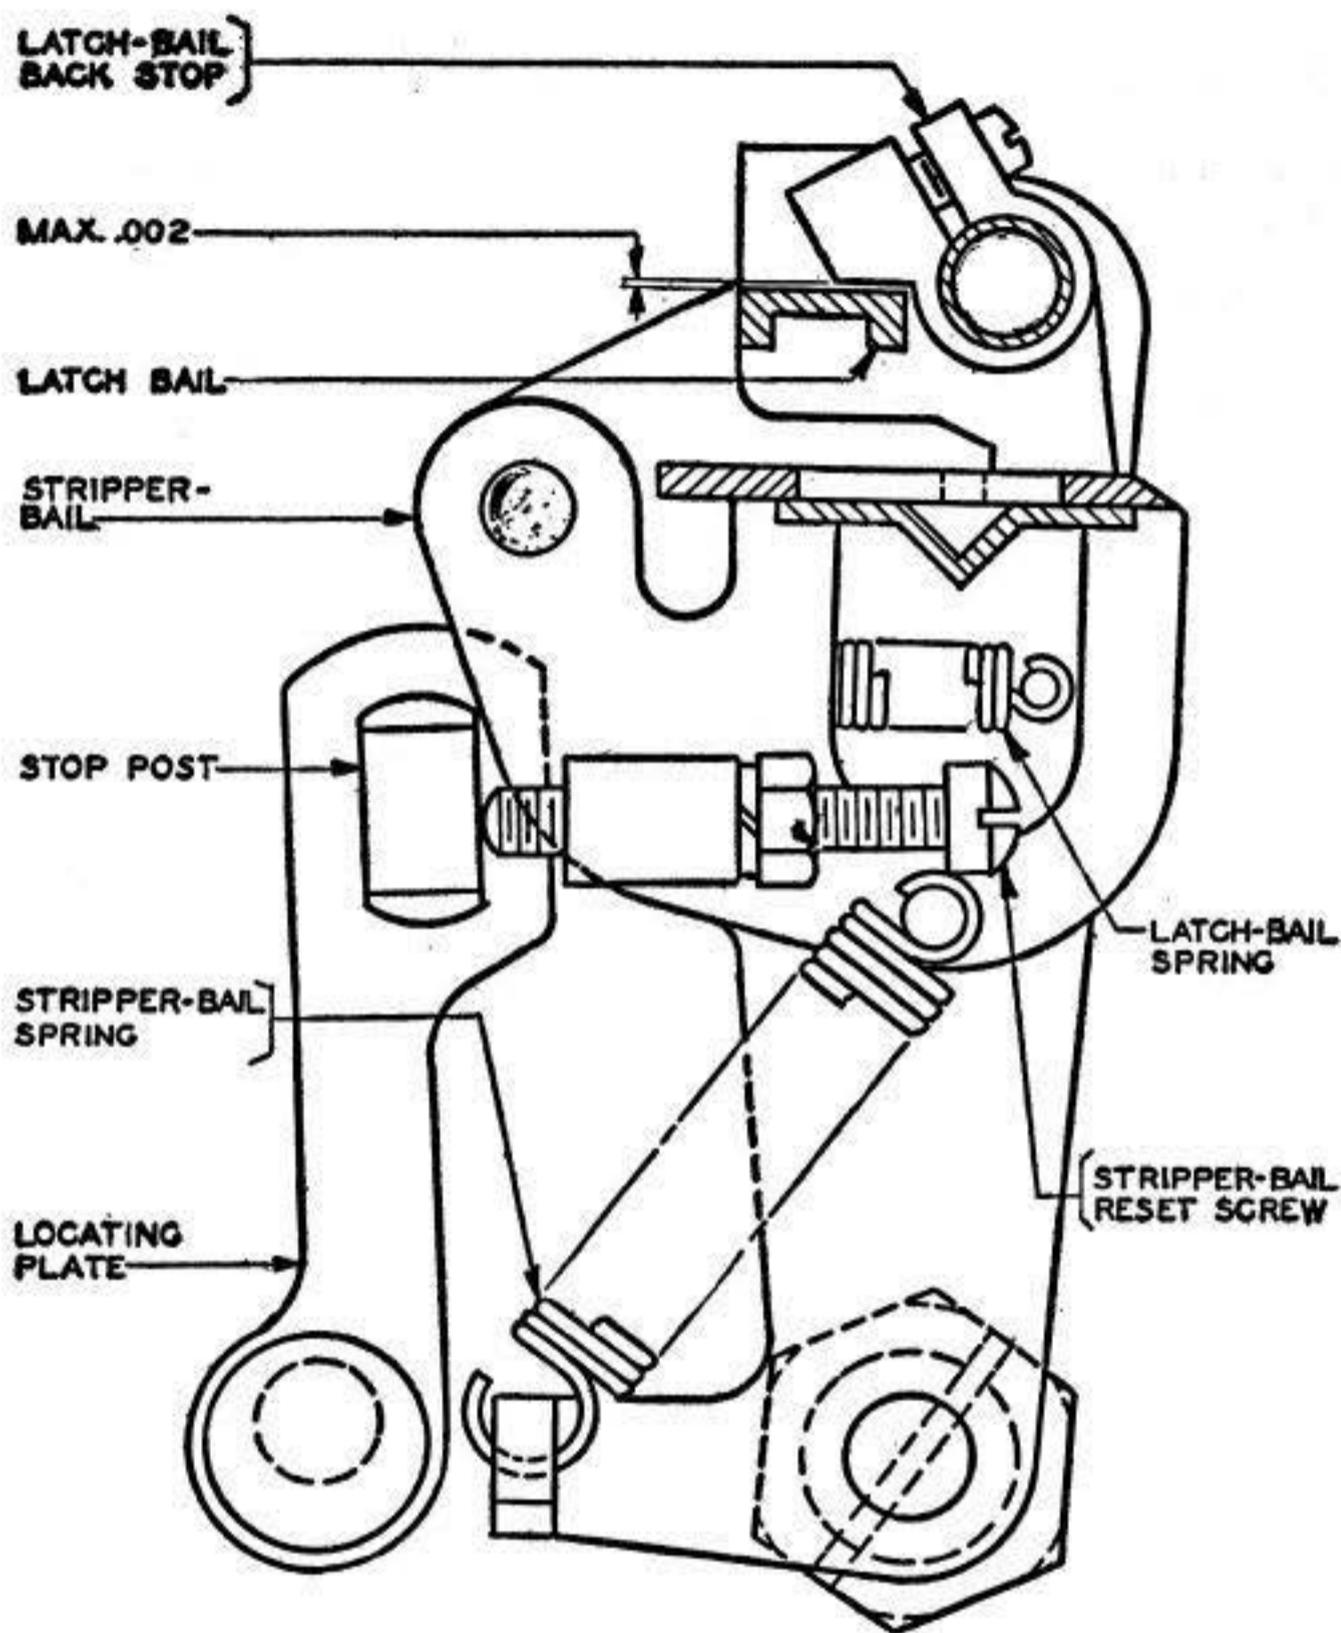

Fig 10
3.15 Latch-Bail Spring: It should require Min 1 oz, Max 2 oz, to start the latch bail moving. **Fig 10**
3.16 **Stripper-Bail Spring:** It should require Min 5 oz, Max 7 oz, to pull each spring to position length. **Fig 10**